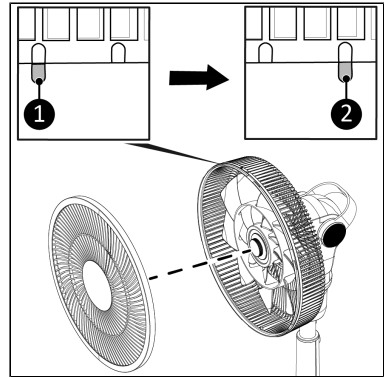

Figure 31.
Align the marking on the front grille with the left marking on the rear grille (Figure 31, pos. 1).
15. Turn the front grille clockwise until the marking on the front grille aligns with the right marking on the rear grille (Figure 31, pos. 2).